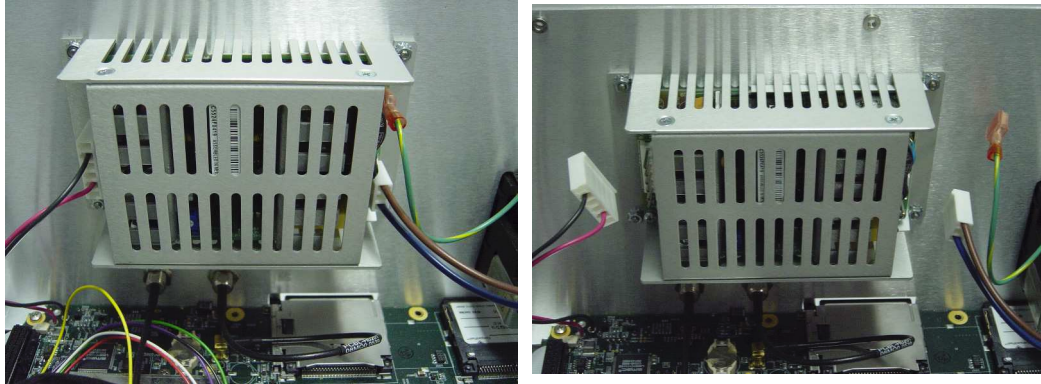

Figure 4-15. Power Supply Mounted on Rear Panel
1. Disconnect the power outlet plug from the left side of the power supply, and disconnect the power inlet plug and the grounding wire from the right side. Refer to Figure 4-15.